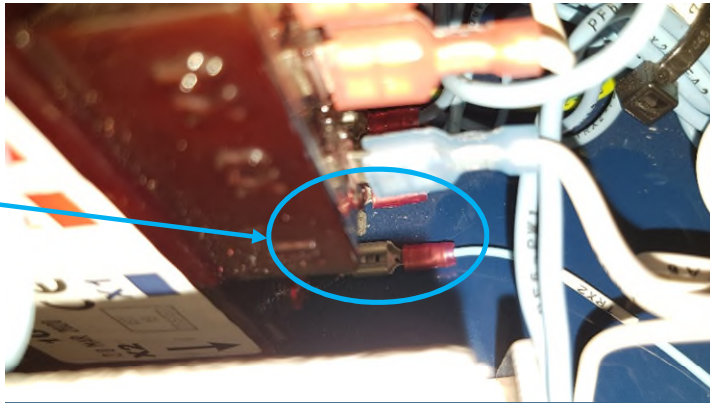

Figure 6c: TRX2 connection to Transformer
See Figure 6c for
16. Connect the wire marked TRX2 to the low voltage side of transformer at an open X2 connector. See Figure 6c.